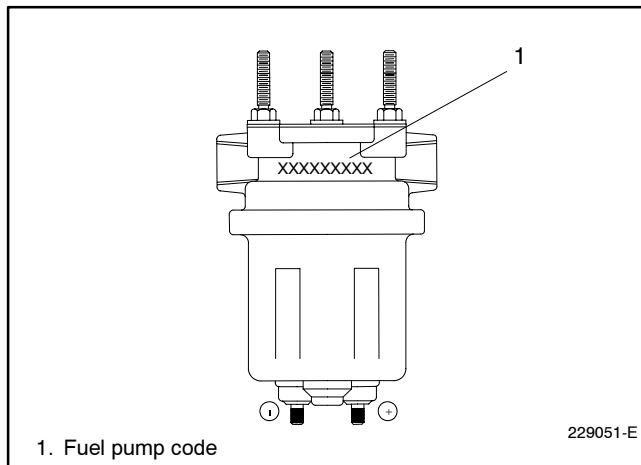

Figure 1 Fuel Pump
1. Check all service parts stock for fuel pumps with a manufacturer's build code of 11560A13A or 11560A25 stamped on the housing. See Figure 1 for the fuel pump's code location. Replace all fuel pumps that have this code.